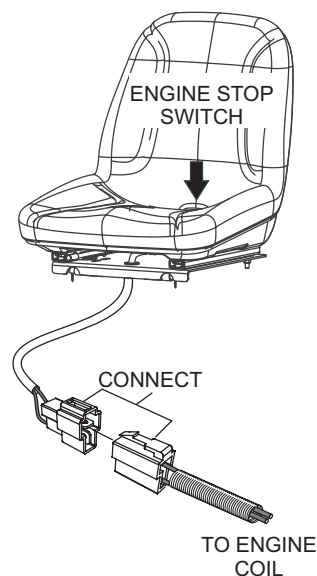

Figure 5. Engine Stop Switch Connection
4. Connect the engine stop switch (operator's seat) cable to the mating plug as shown in Figure 5.